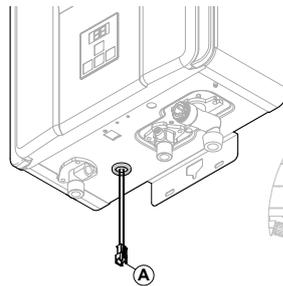

Fig. 1
3. Pass sufficient cable through the hole in the casing (Fig. 1); connect the terminal end to the electronic board and fix it to the body © (Fig. 2);